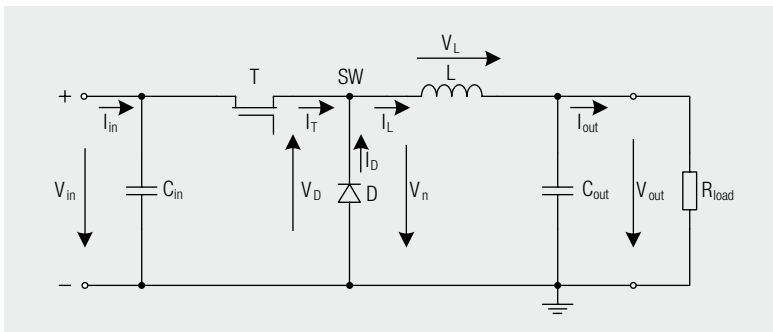

Fig. 2.2: Schematic buck converter
Figure 2.2 shows the basic circuit of a buck converter, including the branch currents/voltages. The voltage from the switch node (SW) to ground is termed as V_n . The switch (S) (also see Chapter 1.3) has been replaced with a switching transistor (T) (bipolar, FET, MOSFET). This can be part of an IC or may also be a separate component.